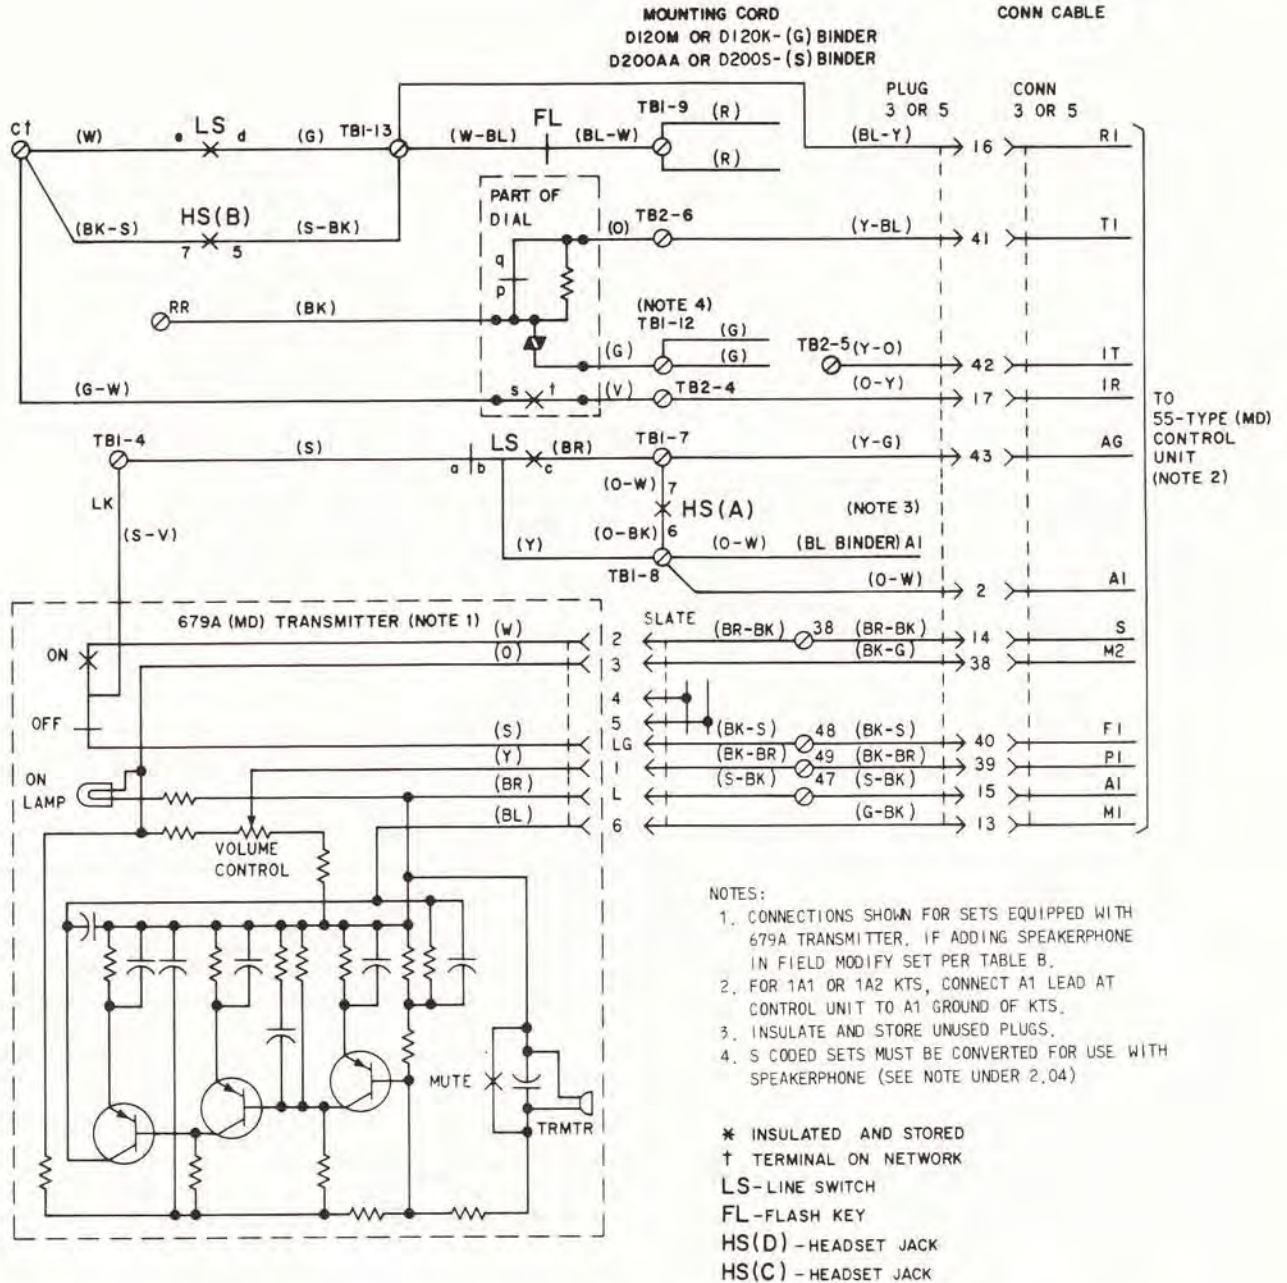

Fig. 5—Speakerphone Connections, Using Internal 679A (MD) Transmitter
2.04 Sets may be equipped for internal speakerphone by the addition of a 679A (MD) transmitter in the 3rd (2682AA) or 5th (2683AA) module. Figure 5 and Table B show wiring of sets with speakerphone when transmitter is internal using a 55-type (MD) control unit.♦
1. THE 635AD5C KEY IS SUPPLIED WITH AN ADAPTER IN THE CUTOFF KEY POSITION. SLATE MOUNTING CORD PLUG IN (BL) BINDER CONNECTS TO THE ADAPTER. BALANCE OF PLUGS CONNECT DIRECTLY TO KEY. CONNECT (BL-Y) AND (Y-BL) ADAPTER LEADS TO TERMINAL 1 AND 2, RESPECTIVELY, ON S CODED TELEPHONES TERMINAL 4 IS USED FOR THE NEW LINE SWITCH. CONNECT THE (BL-Y) ADAPTER LEAD TO THE (BL-Y) MOUNTING CORD LEAD USING A SPARE TERMINAL OR A D161488 CONNECTOR.
2. IN SETS EQUIPPED WITH A 658A KEY, THE (G) CONTACT STRIP LEAD IS TERMINATED ON 17 AND (R) ON 18. IF A 658A KEY IS ADDED IN THE FIELD, LEADS MUST BE MOVED FROM PRECEDING MODULE CHAINING CIRCUIT TO TERMINALS 17 AND 18.
5. MODULE MAY ALSO BE EQUIPPED WITH A 679A (MD) TRANSMITTER FOR INTERNAL SPEAKERPHONE. SEE FIG. 5 AND TABLE B.
7. REFER TO FIG. 5 FOR CONNECTIONS WHEN ASSOCIATED WITH 679A (MD) TRANSMITTER.
11. THESE CONTACT STRIPS ARE REQUIRED WHEN TELEPHONE SET IS EQUIPPED WITH THE D120K (MD) OR D200S(MD) MOUNTING CORD. THESE CONTACT STRIPS SHOULD NOT BE USED WHEN TELEPHONE SET IS EQUIPPED WITH THE D120M OR D200AA MOUNTING CORD OR WHEN TELEPHONE SET IS EQUIPPED WITH A MODIFIED D120K OR D200S MOUNTING CORD.